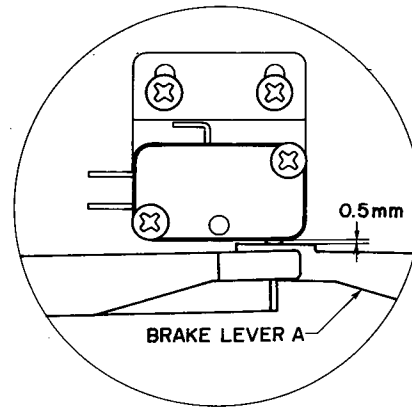

Fig. 5
- 4) As illustrated in Fig. 5, tighten brake solenoid fixing screws C and D so that there is a minimum of 0.5mm between brake lever A and the body of the brake micro switch when the plunger is pulled.